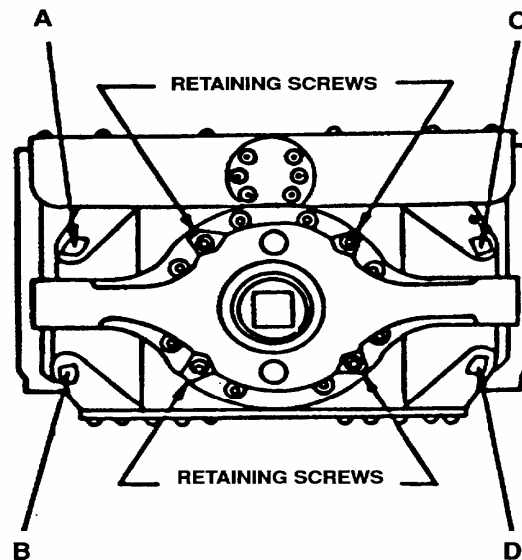
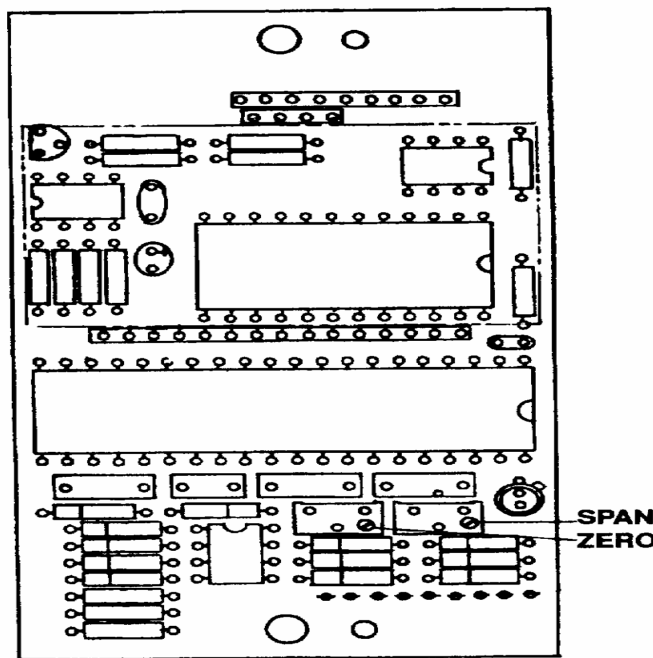
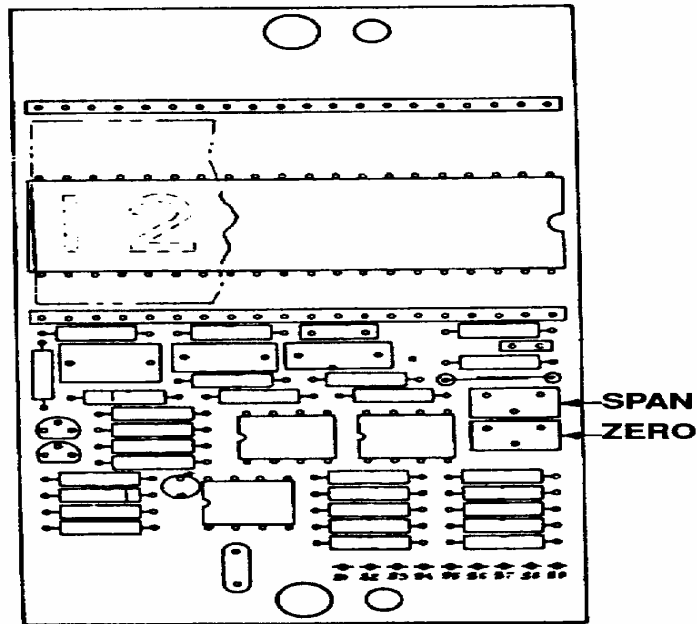

Figure 1. Torque wrench - adjustment locations.
Figure 2. Consolidated Devices, Models DPT 1200 and DPT 1200R -adjustment locations.
Figure 3. Consolidated Devices, Models DPT2500 and DPT-2500R - adjustment locations.
Reaction arm must be free to move under retaining screws (fig. 1).
- (1) If TI indication error is the same in both cw and ccw directions, adjust pointer of TI dial indicator.
- (2) If TI indication error is not the same in both directions, perform (3) through (10) below.
- (3) Remove sealant from the four adjustment screws A, B, C, and D (fig. 1) on the back of TI.
- (4) Using appropriate size Allen wrench, back off screws A and B (fig. 1) at least three turns.
- (5) Adjust screw C (fig. 1) until a pressure reading is shown on indicator, then back off screw until indication returns to 0.
- (6) Check spacing between the reaction arm on sensing unit housing and reaction ears. If reaction arm is not centered between ears, adjust screws C and D (fig. 1) until sensor is centered.
- (7) Turn screw A (fig. 1) inward until a pressure reading is shown on indicator and then back off to 0 plus one-quarter additional turn.
- (8) Turn screw B (fig. 1) inward until a pressure reading is shown on indicator and back off to 0.
- (9) Repeat a above and adjust screws B and C (fig. 1) slightly to bring TI indications within tolerance (R).
(10) Reseal retaining screws with sealant. Repeat table 4.
(11) Operate crank cw to obtain an indication of 800 ft-lbs (1200 ft-lbs for models DPT-2500 and DPT-2500R) on force/torque indicator.
(12) Adjust SPAN screw (fig. 2 and fig. 3) for an indication of 800 ft-lbs (1200 ft-lbs for models DPT-2500 and DPT-2500R) on digital display (R).
It should not be necessary to adjust internal ZERO (fig. 2 and fig. 3) unless circuit board is repaired.